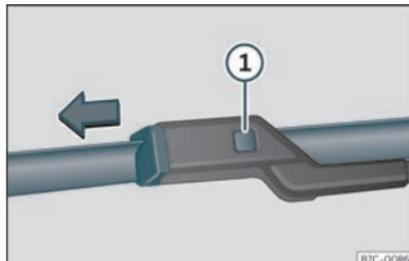

Fig. 36 Changing the windscreen wiper blades
- Press and hold release button >>> Fig. 36 ❶ and pull gently on the wiper blade in the direction of the arrow.